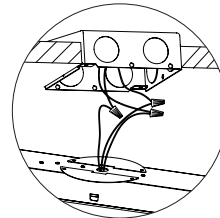

Fig. 4
4. Then clip the brackets to the slots of fixture. (Fig. 4)